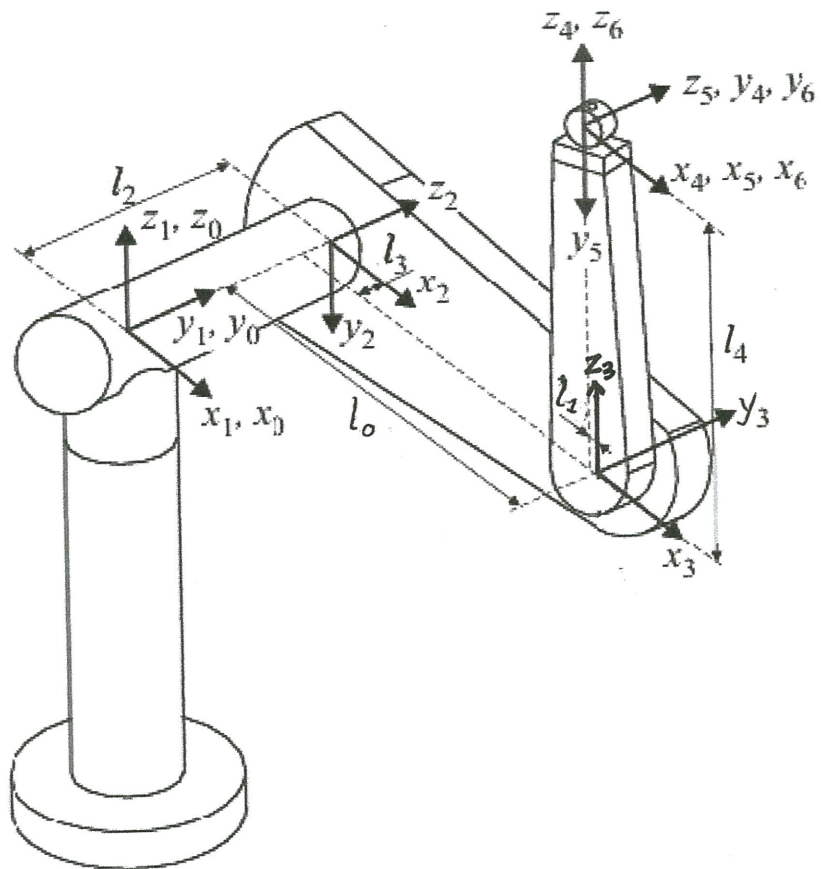

FIGURE Q4(c)
- (b) List down the four (4) important steps of Denavit-Hartenberg (D-H) convention. (4 marks)
- (c) **Figure Q4(c)** shows the schematic diagram of a PUMA 560. Fill in the Denavit-Hartenberg (D-H) parameters table below.